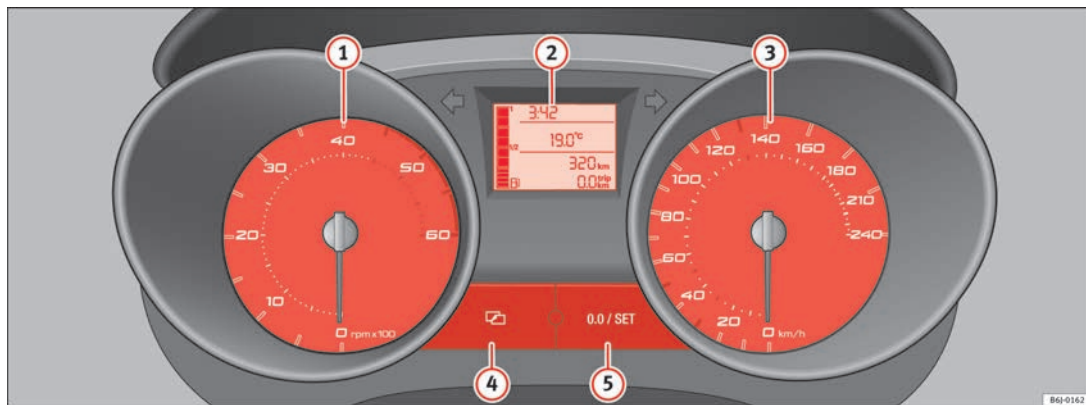

Fig. 30 Detailed view of instrument panel: instrument panel
The start of the red zone ⇒ page 49, fig. 30 ① indicates the maximum engine speed operating at service temperature. However, it is advisable to change up into a higher gear, move the selector lever to D or lift your foot off the accelerator before the needle reaches the red zone.
- To alter the time, press button ④ ⇒ page 49, fig. 30. The “hour” option flashes on the digital display and is set using button ⑤ “set” ⇒ page 49, fig. 30. ▶
The lower counter registers the short journeys. The last digit indicates 100-metre sections. The trip recorder counter may be reset by pressing the reset button ⇒ page 49, fig. 30 (5).